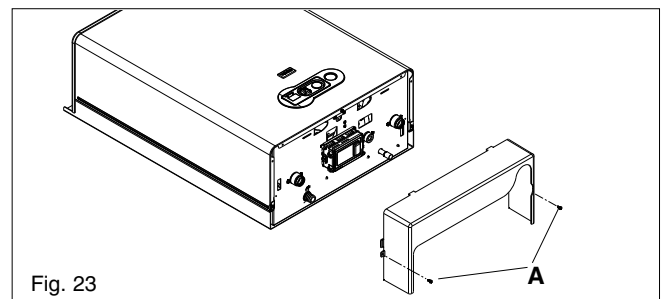

Fig. 23
- locate and unscrew the 3-screws (**B**) that secure the outer casing to the appliance (fig. 23)
Remove the hydraulic cover by loosening the screw **A** (fig. 23)